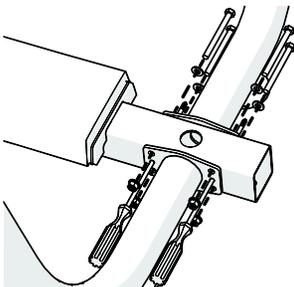

Figure 5
2. Slide a washer **5** over each of the four bolts **3** and then, from the opposite side of the center support, insert the four bolts **3** and attach a nut **1** to each bolt. Partially tighten the fasteners (see Figure 5).